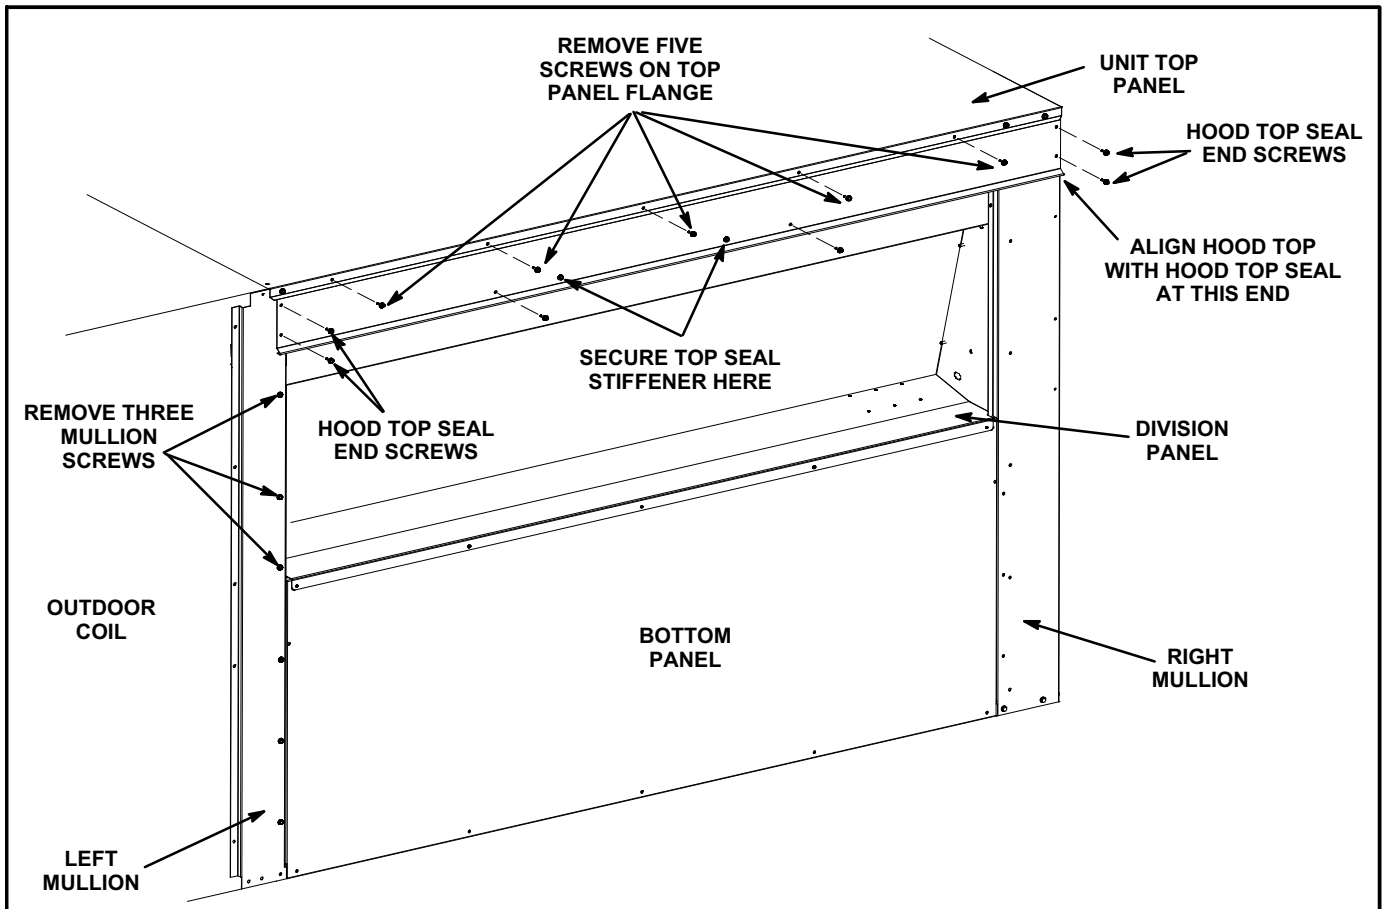

FIGURE 20
The outdoor air hood is packaged separately but attached to the damper assembly crate. Use #10 self drilling screws to install hood unless noted otherwise. Refer to figures 20, 21 and 22.
- 2- Secure top seal stiffener to back side of hood top seal. See figures 20 and 21.
- 3- Slide hood top seal under unit cabinet top and secure using five retained top screws. Install, but do not tighten, the two screws on each end of the hood to seal. Refer to figure 20.
- 4- Remove and retain top three screws on the left mullion of the outdoor air section. See figure 20.
- 6- Position the hood top edge V-channel under the corresponding V-channel on the hood top seal and slide into place from right to left. See figure 20 and 21.